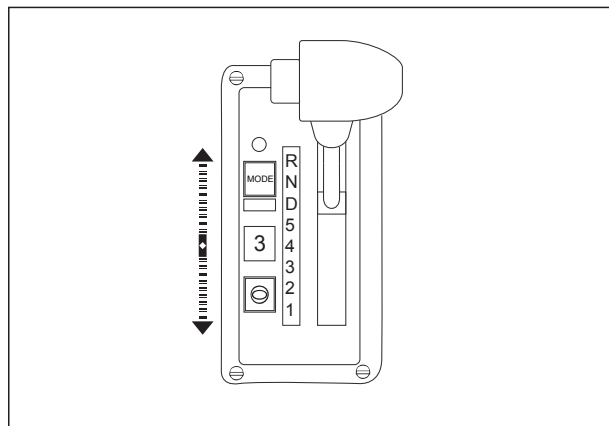

Fig 4.22
3. Select the driving direction and the required range.(see Figure 4-22)